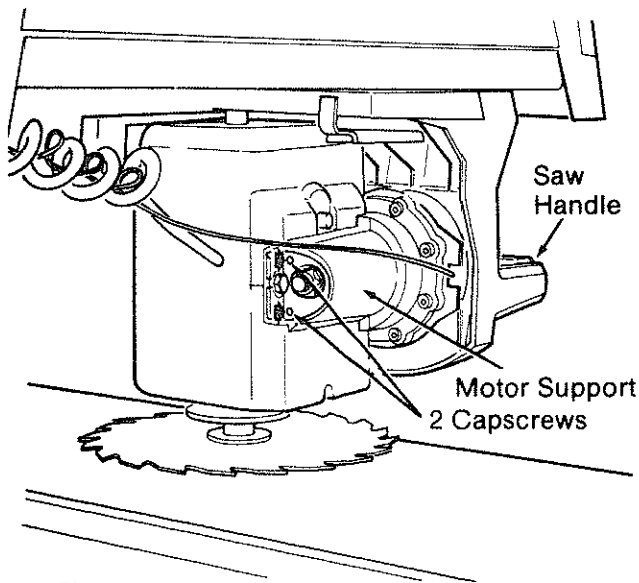

Fig. 122
10. Loosen the two screws on the back of the *motor support* using a 1/8 inch hex-L wrench and pliers if necessary. (Figure 122)